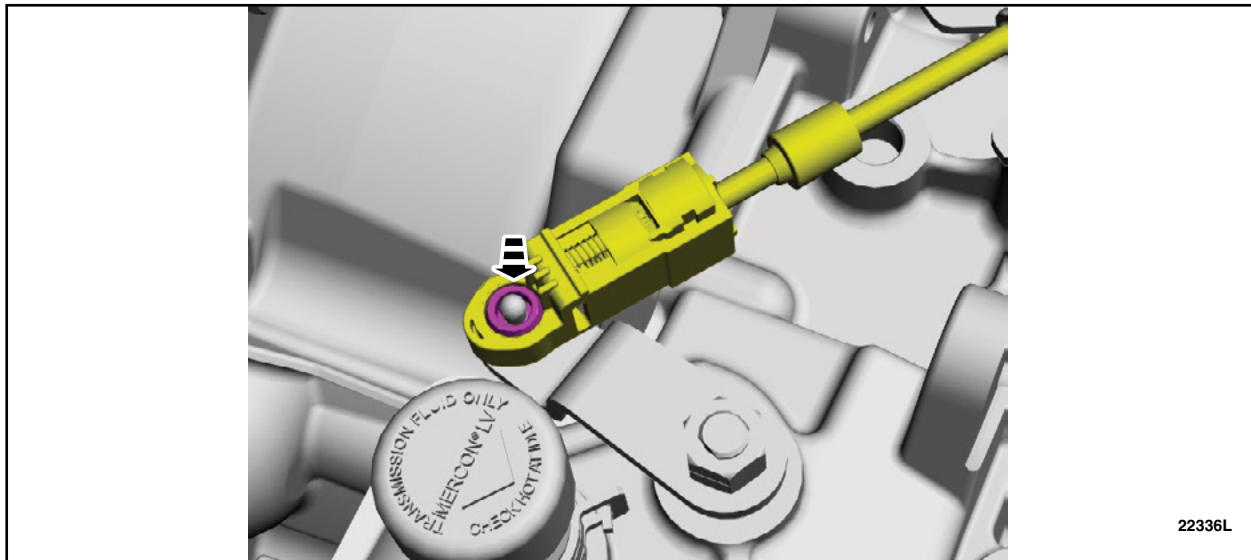

FIGURE 14
15. Connect the selector lever cable to the manual control lever. See Figure 14.